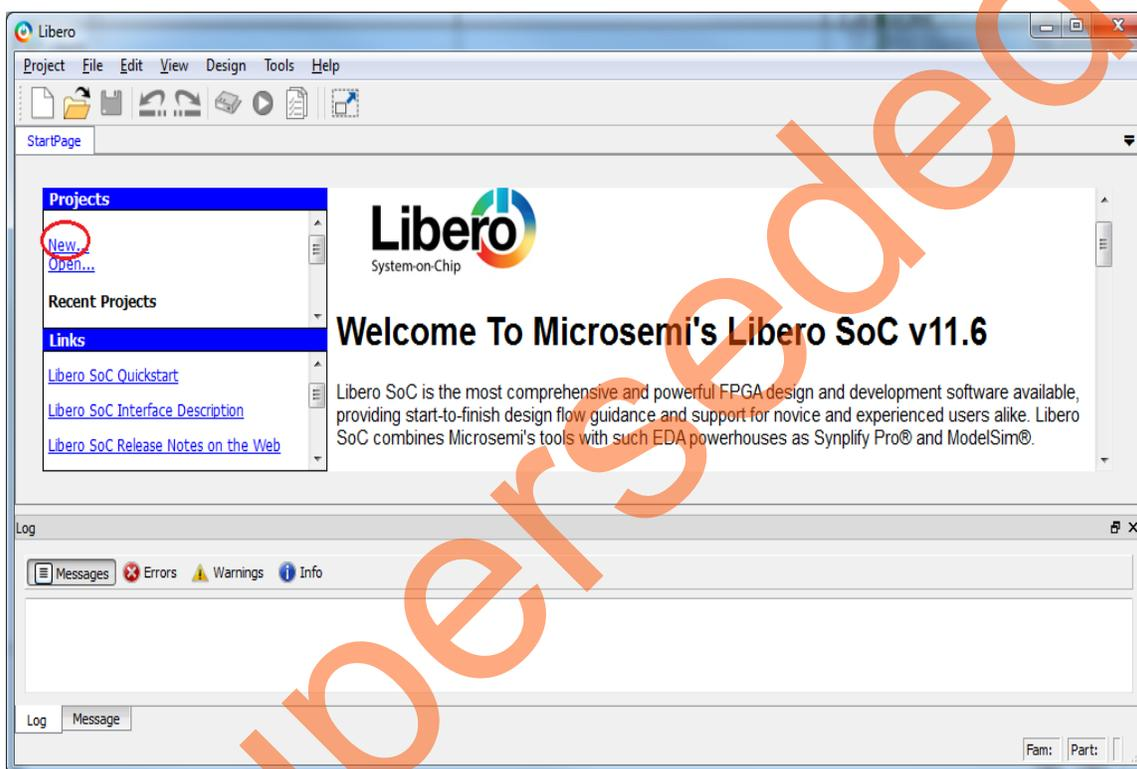

Figure 2 • Libero SoC Project Manager
- Select **New** on the **Start Page** tab, as shown in Figure 2.